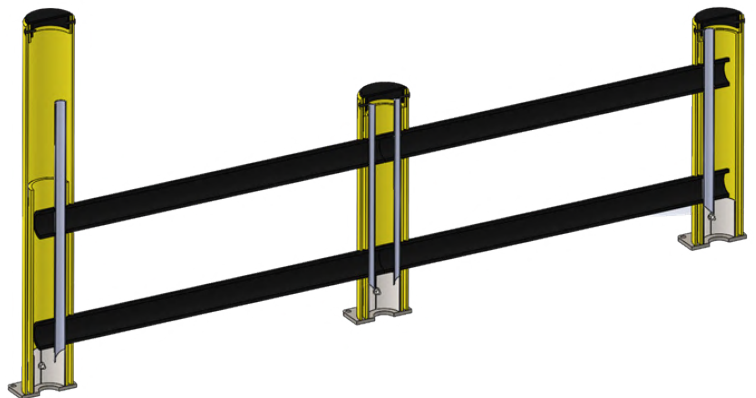

Figure 7. Section of the assembled BRD140(01) barrier
4. Perform the actions specified in paragraph 5 of the BRD140 barrier assembly algorithm. A sectional view of the assembled BRD140(01) barrier is shown in Figure 7.